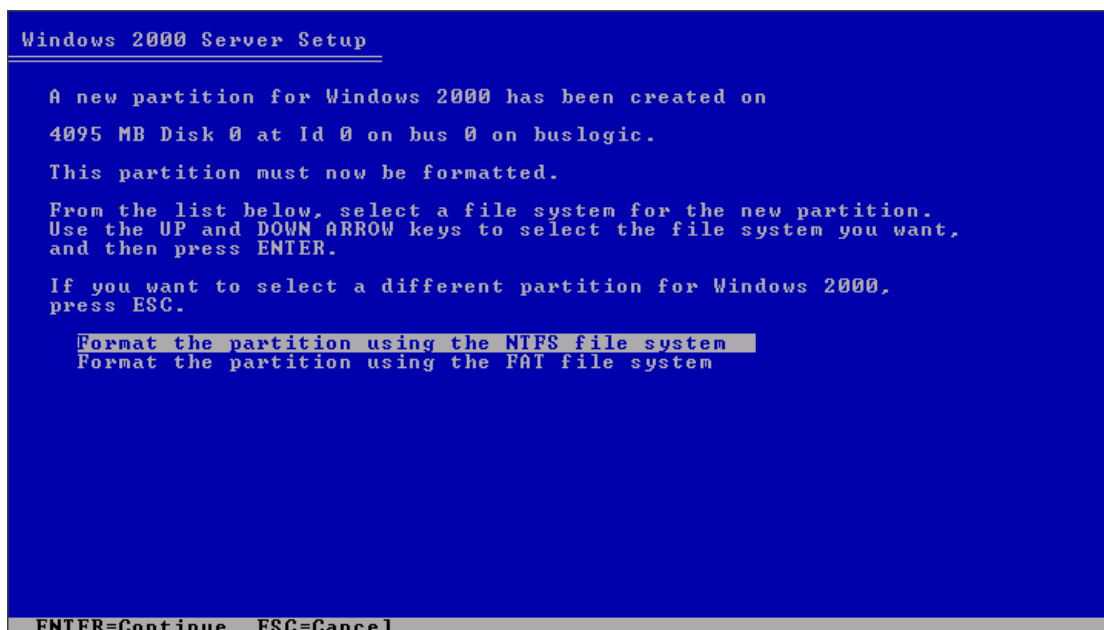

Figure 2-10 Selecting file system format
- 5) You are prompted to select a file system format for the partition, as shown in Figure 2-10. Select the NTFS file system. Press <Enter> to continue.